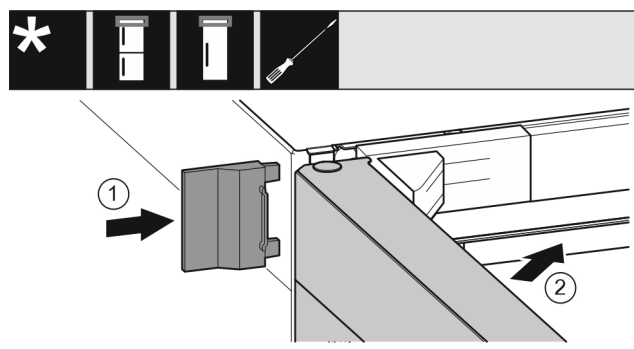

Fig. 22
- Slide on the outer cover. Fig. 22 (1)
- Close the upper door. Fig. 22 (2)